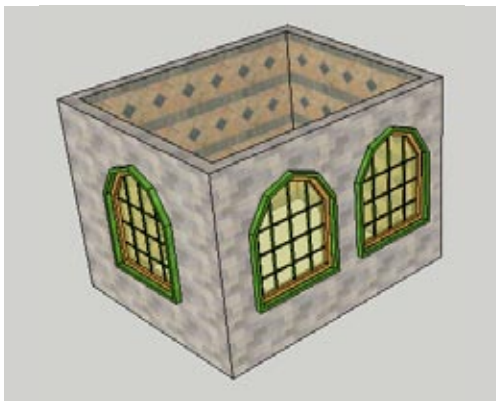

Figure 7-50
- Explode each window and push the cutting face from the front face of the wall to the back face of the wall. You can use Push/Pull on the cutting face even though it appears behind the window face. You can now see through the walls, into the room (Figure 7-50).